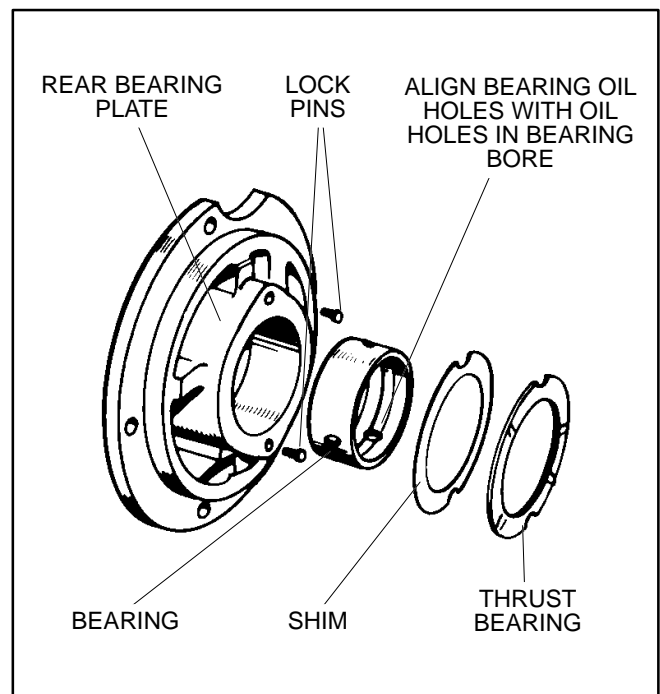

FIGURE 7-32. REAR CRANKSHAFT BEARING
5. Place the rear thrust bearing and shim on the rear bearing plate with the shim between the bearing and the bearing plate. The flat side of the bearing goes against the shim and the shim and bearing notches should clear the lock pins. (Figure 7-32). Liberally oil the thrust and shell bearing surfaces.
Rear Bearing: See Figure 7-32. Use the special driver available to drive the rear main bearing into the bearing plate. Make sure the oil holes in bearing and bore will line up so that the passage is at least 1/2 open. Push the driver in until it is stopped by its flange.